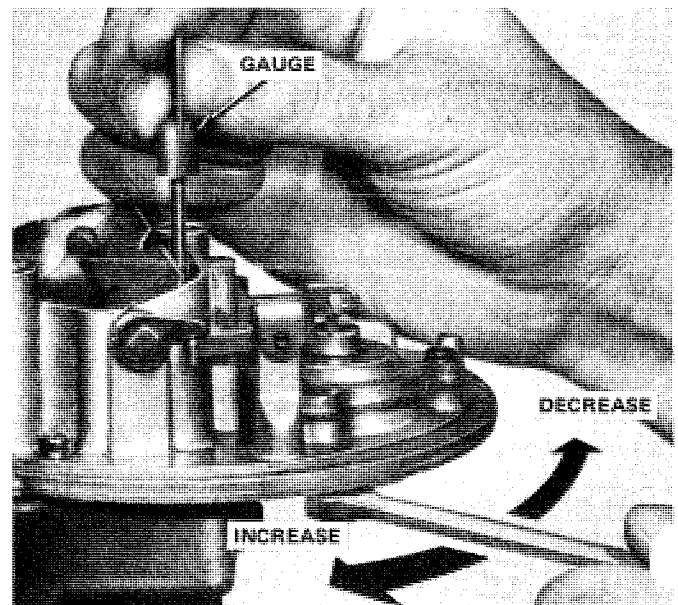

Fig. 1J-87 Initial Choke Valve Clearance Adjustment
(1) Loosen choke cover retaining screws and rotate choke cover 1/4-turn counterclockwise (rich). Tighten one screw.
(2) Disconnect choke heat inlet tube. Align fast idle speed adjusting screw with second step (index) of fast idle cam.
(3) Start engine without moving accelerator linkage. Turn fast idle cam lever adjusting screw out (counterclockwise) three (3) full turns. Measure clearance between lower edge of choke valve and air horn wall. Refer to Specifications for correct setting.
(4) Adjust by turning set screw on bottom of modulator. Turn screw in to increase clearance or turn out to decrease clearance (fig. 1J-87).